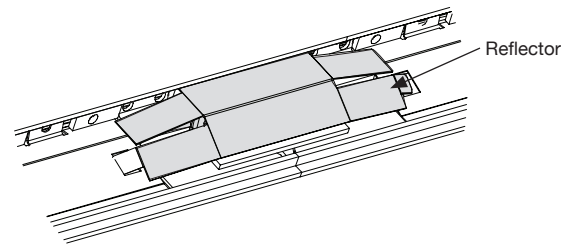

Fig. 3 - Continuous Run - Bottom Reflector
- Assemble the joint reflector over the brackets and into the adjacent slots (Fig. 3). Repeat for both sides of the fixture joint. Once complete, replace lenses.